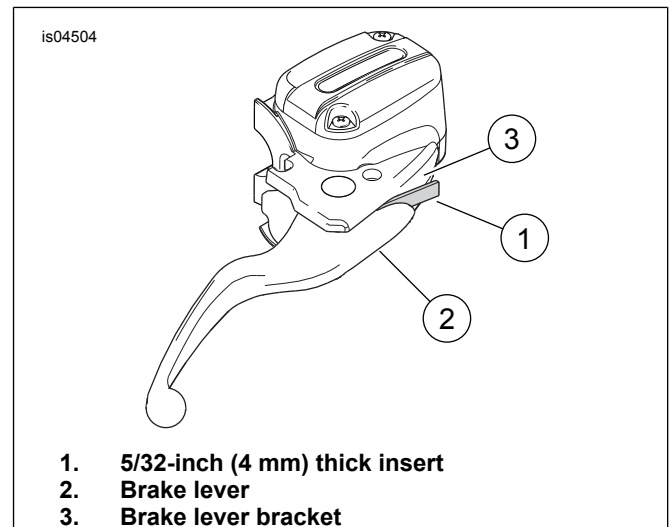
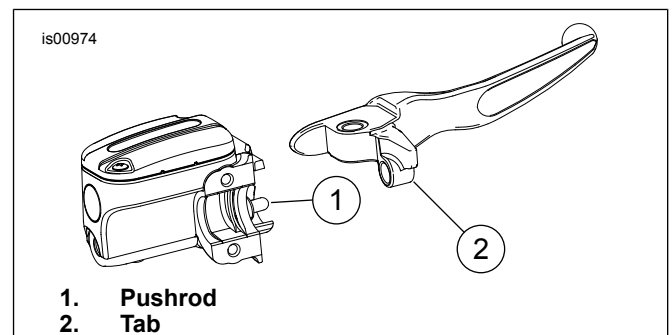
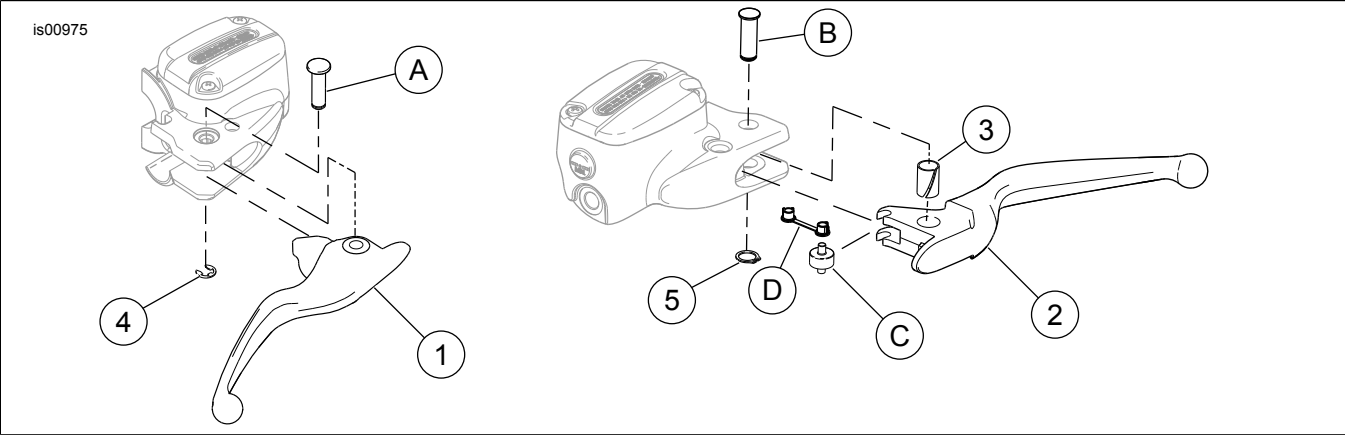

Figure 1. Protect Stop Light Switch
Figure 2. Master Cylinder Pushrod and Lever Tab
Figure 3. Service Parts for Hand Control Lever Kits
See Figure 3 and Table 1.
1. See Figure 3. Remove the retaining ring (4) from the groove in the pivot pin (A).
A section of corrugated cardboard or the eyelet of an ordinary cable strap can be used for this purpose. See Figure 1.
3. See Figure 3. Loosen the brake master cylinder clamp screws. Rotate the master cylinder assembly slightly forward and then slide toward the center of the handlebar.
4. Remove the pivot pin (A) and original equipment (OE) brake lever. Retain the pivot pin for later assembly.
5. Apply a small amount of GM-40M grease (H-D Part No. 42820-04) to the area where the master cylinder pushrod seats against the brake lever. DO NOT apply grease to the stop-light switch contact surface of the lever. See Figure 2. Align the hole in the brake hand lever with the hole in the master cylinder bracket. From the top of the assembly, slide the pivot pin down through the bracket and hand lever. Check that the pushrod (1) is properly seated in the bowl shaped tab (2) on the lever.
- See Figure 3. Install the pivot pin (A) removed in Step 4, and the retaining ring (4) from the kit. Replace the insert shown in Figure 1.
- See Figure 3. Remove the pivot pin (B) through the top of the housing. Save the pivot pin for installing the **new** clutch lever.
- Slide the bushing cups (D) onto the pins of the roller (C) with the cup flanges against the roller.
- With the connector bow portion of the bushing cups (D) parallel with the groove in the clutch handle, snap the roller pin with the bushing cups installed into the clutch lever roller groove. If the bushing is positioned correctly, the roller and bushing assembly will securely install with a snap.
- Apply a small amount of GM-40M grease (H-D Part No. 42820-04) to grease the pivot bushing (3). Install the bushing into the clutch lever pivot hole. Position so the bushing is flush on both sides of the lever.
- Orient the clutch lever (2) in the lever mounting bracket. Insert the pivot pin (B) from the top and tap into place.
- Install the retaining ring (5) on the pivot pin (B).